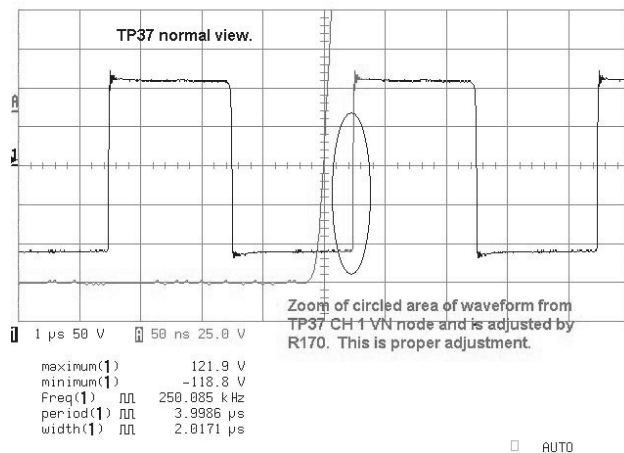
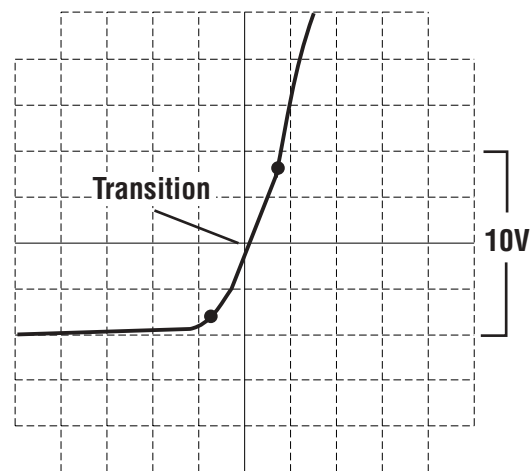
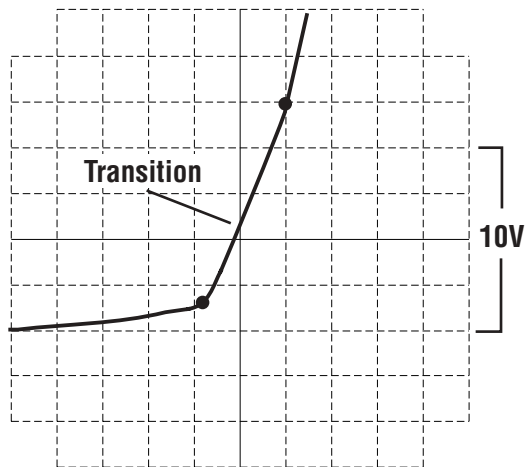
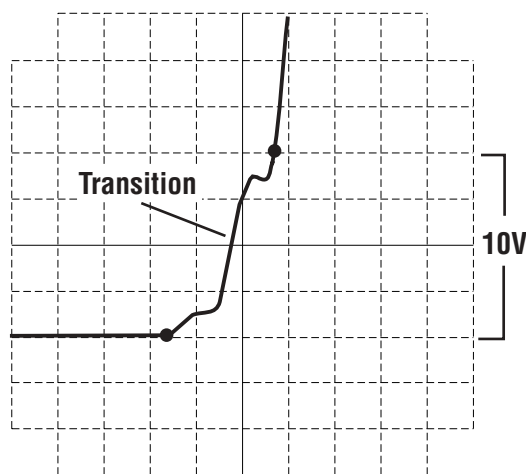

Figure 4.17 Overlap Adjustment
Figure 4.18 Correct Overlap Adjustment
Figure 4.19 Underlap
Figure 4.20 Excessive Overlap
**Procedure:** Monitor TP37 found on the Main PWA. Center oscilloscope to view lower right portion of waveform (see Figure 4.17). Adjust R170 for the sharpest-possible squarewave rising edges, with a transition curve less than 10.0V. Figure 4.18 shows a correct transition curve, Figure 4.19 shows “underlap” (under adjustment), where the transition curve exceeds 10.0V. Figure 4.20 shows “overlap” (over adjustment), where the transition curve is not “smooth.”